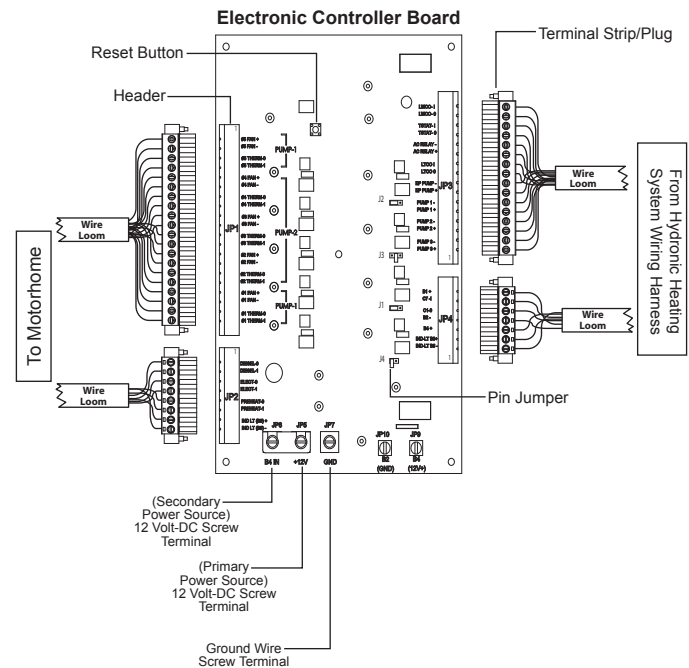

Figure 21
3. Insert all heat exchanger wires into the appropriate terminal/heating zone location on the electronic controller. Reference Figure 21 and Appendix A.